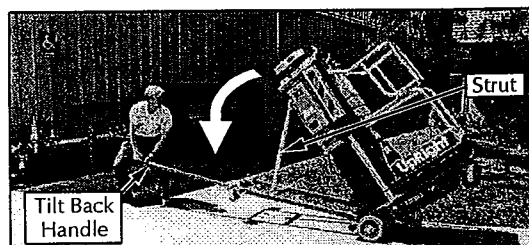

Figure 3-10: Tilting the Machine Back
10. Pull downward on the Tilt Back Handle and lower the machine gently onto the Tilt Back Frame. As the mast tilts backward, the weight of the machine will transfer onto the Tilt Back Frame. Remember to support this weight and DO NOT allow the machine to drop onto the Tilt Back Frame (fig. 3-10).